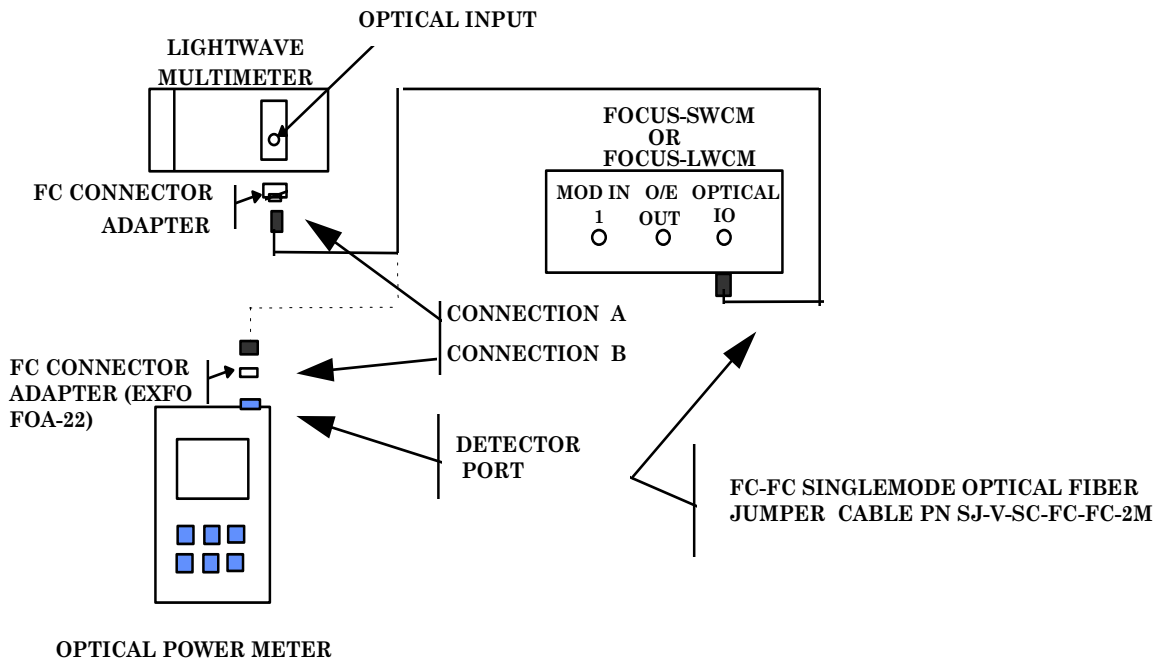

Figure 1. OPM test setup.
(1) Connect equipment as shown in figure 1, CONNECTION A. Connect optical fiber jumper cable from FOCUS-SWCM **OPTICAL I-O** to fc connector adapter attached to **OPTICAL INPUT** of lightwave multimeter (fig. 1).
(2) Set lightwave multimeter to measure optical power in dBm at 850 nm wavelength.
(3) Adjust FOCUS-SWCM **VAR ATTN 1** knob for **-10.00 dBm** indication on lightwave multimeter display.
(4) Remove cover from OPM **DETECTOR PORT** (fig. 1).
(5) Carefully remove optical fiber jumper cable connector from lightwave multimeter and connect to OPM **DETECTOR PORT**, CONNECTION B (fig. 1).
(6) Press OPM **λ select** pushbutton as necessary to set wavelength to 850 nm.
(7) Press OPM **dBm/W** pushbutton if necessary to measure dBm.
(8) OPM will indicate between -09.65 and -10.35 dBm; if not, perform **b** below.
(9) Press and hold **ref** pushbutton for **00.00** indication on display.
(10) Carefully remove optical fiber jumper cable connector from **OPM DETECTOR PORT** (fig. 1) and connect to lightwave multimeter (fig. 1).
(11) Adjust **FOCUS-SWCM VAR ATTN 1** knob for **-15.00 dBm** indication on lightwave multimeter display.
(12) Carefully remove optical fiber jumper cable connector from lightwave multimeter (fig. 1) and connect to **OPM DETECTOR PORT, CONNECTION B** (fig. 1).
(13) OPM will indicate between -04.50 and -05.50 dB.
(14) Press **dBm/W** pushbutton to return OPM to measure dBm.
(15) Repeat technique of (1) through (8) above for settings and indications in table 4. If OPM does not indicate as specified, perform **b** below.